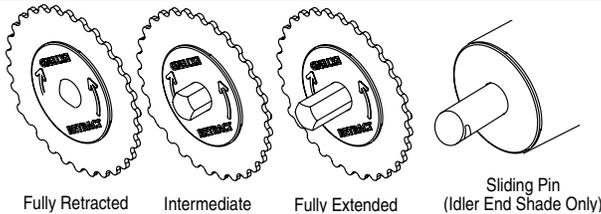
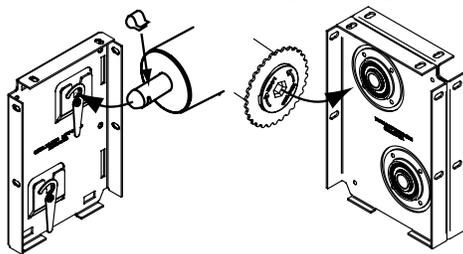

Figure 1
Figure 6
- ① If desired, the proper location of the coupler bracket assembly can be verified. Otherwise, proceed to step 2.
- ② Install first coupler bracket assembly to mounting surface.
- ③ Make sure the operator-end fabric/roller assembly's coupler shaft is completely retracted (see "Operating the Retractable Shaft" and Fig. 1).
- ④ Raise first rear/upper fabric/roller assembly into place. While one person inserts the operator end of fabric/roller assembly into the operator-end bracket, the second person lifts the coupler end up next to the coupler bracket assembly, then extends the coupler shaft to the intermediate position by rotating the ring clockwise about $\frac{1}{3}$ of a turn (see "Operating the Retractable Shaft" and Fig. 1). This will hold the first unit in place during installation of the next panel.
- ⑤ For motorized shades, connect power so the shade can be operated and adjusted.
- ⑥ Operate the shade to ensure proper fabric tracking and to set up and down limits (see sections on limit adjustment and field adjustments).
- ⑦ Raise shade to upper limit.
- ② Install the next coupler bracket to mounting surface.
- ③ The end of the previously-installed coupler shaft should be flush with the outside edge of the bearing. If it is extended beyond the bearing, you can retract the coupler shaft of the previously installed roller to the intermediate position (see "Operating the Retractable Shaft" and Fig. 1).
- ④ Lift both ends of the intermediate fabric/roller assembly into place and align between the rear/upper brackets.
- ⑤ One person fully extends coupler shaft of previously installed roller by rotating the metal ring clockwise about ½ of a turn when viewing the face of the coupler assembly (see "Operating the Retractable Shaft" and Fig. 1), until the shaft extends fully into the receiver of the fabric/roller assembly being installed.
- ⑥ The other person extends the coupler shaft of the fabric/roller assembly being installed to the intermediate position by rotating the ring clockwise about 1/3 of a turn (see "Operating the Retractable Shaft" and Fig. 1) so the end of the shaft is flush with the outside edge of the bearing.
- ⑦ Operate the shade to ensure proper fabric tracking.
- ⑧ Lower the unit (all shades will operate simultaneously) to lower limit.
- ⑨ If needed, the fabric panel heights can be adjusted so that the bottom edges of the fabric panels are aligned. **On large units, this procedure should be done on only one panel at a time to minimize the amount of fabric weight that must be supported during the adjustment procedure. See Fabric/Roller Assembly Alignment" on page 4 for instructions.**
- ⑩ Repeat steps above under "Second Fabric/Roller Assembly" for additional intermediate panels.
Final (Idler-end) Fabric/Roller Assembly (see Fig. 6):
- ① If desired, the proper location of the next bracket assembly can be verified. Otherwise, proceed to step 2.
- ② Install idler-end bracket/endcap assembly.
- ③ Retract coupler shaft of previously installed roller to the intermediate position (see "Operating the Retractable Shaft" and Fig. 1). The end of the coupler shaft should be flush with the outside edge of the bearing.
- ④ Lift both ends of the idler-end fabric/roller assembly into place and align between the brackets/endcaps.
- ⑤ One person places the idler-end sliding shaft onto the idler end bracket (see Fig. 6). Lock shaft in place by placing retaining clip on shaft.
- ⑥ The other person fully extends coupler shaft of previously installed roller by rotating the metal ring clockwise about ½ of a turn when viewing the face of the coupler assembly (see "Operating the Retractable Shaft" and Fig. 1), until the shaft extends fully into the receiver of the idler-end fabric/roller assembly.
- ⑦ Operate the unit to ensure proper fabric tracking.
- ⑩ Repeat steps followed for rear/upper fabric/roller assemblies under First (Operator-end) Fabric/Roller Assembly, Second Fabric/Roller Assembly and Final (Idler-end) Fabric/Roller Assembly sections above for lower/front fabric/roller assemblies.